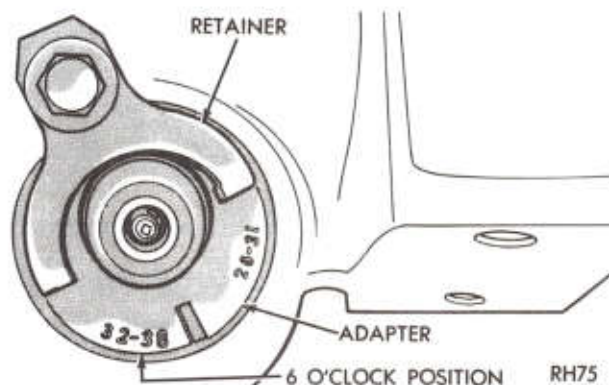
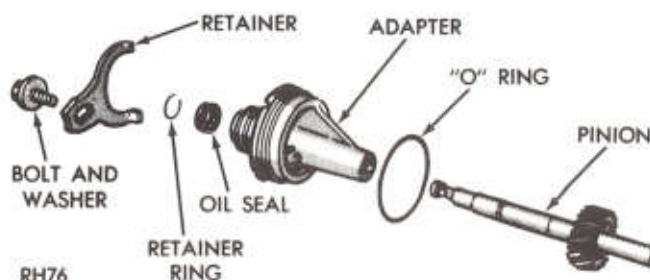

Fig. 5—Speedometer Pinion and Adapter
Fig. 6—Speedometer Pinion and Adapter
(1) Place drain pan under speedometer adapter.
(2) Remove bolt and retainer securing speedometer pinion adapter in the extension housing (Fig. 5).
(3) With cable housing connected, carefully work adapter and pinion out of the extension housing.
(4) If transmission fluid is found in cable housing, replace seal in the adapter (Fig. 6). Start seal and
(6) Rotate the speedometer pinion gear and adapter assembly so that the number on the adapter, corresponding to the number of teeth on the gear, is in the 6 o'clock position as the assembly is installed (Fig. 5).
(7) Install retainer and bolt, with retainer tangs in adapter positioning slots. Tap adapter firmly into the extension housing and tighten retainer bolt to 100 in lbs. (11 N·m).
(8) Connect speedometer cable to adapter.
(9) Fill transmission to level of fill plug (refer to Lubrication Group "O").